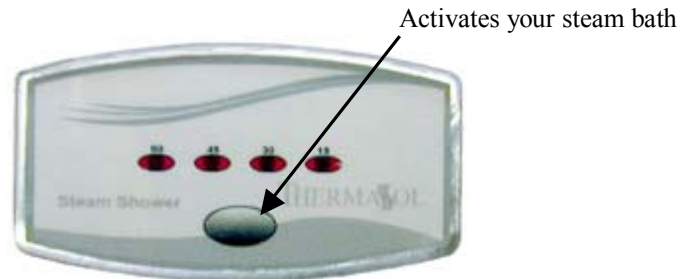

Figure 2
1. **Starting your steam bath.** Press "STEAM" button to activate your steam bath session. 60 minute LED will light up, **see figure 2.**